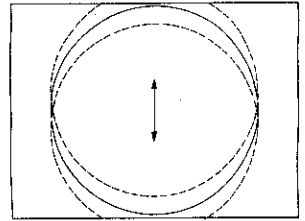

fig. 1
- Adjust the Vertical location to obtain picture centering (fig. 1).